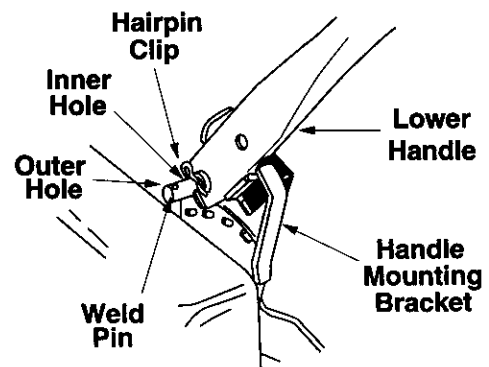

Figure 4
4. Remove the hairpin clips from the outer hole in the weld pins on the handle mounting brackets. See Figure 4.
5. Using a pair of pliers, squeeze one leg of the lower handle against the handle mounting bracket. See Figure 4.
6. Insert the hairpin clip into the inner hole on the weld pin. Repeat on other side. See Figure 4.